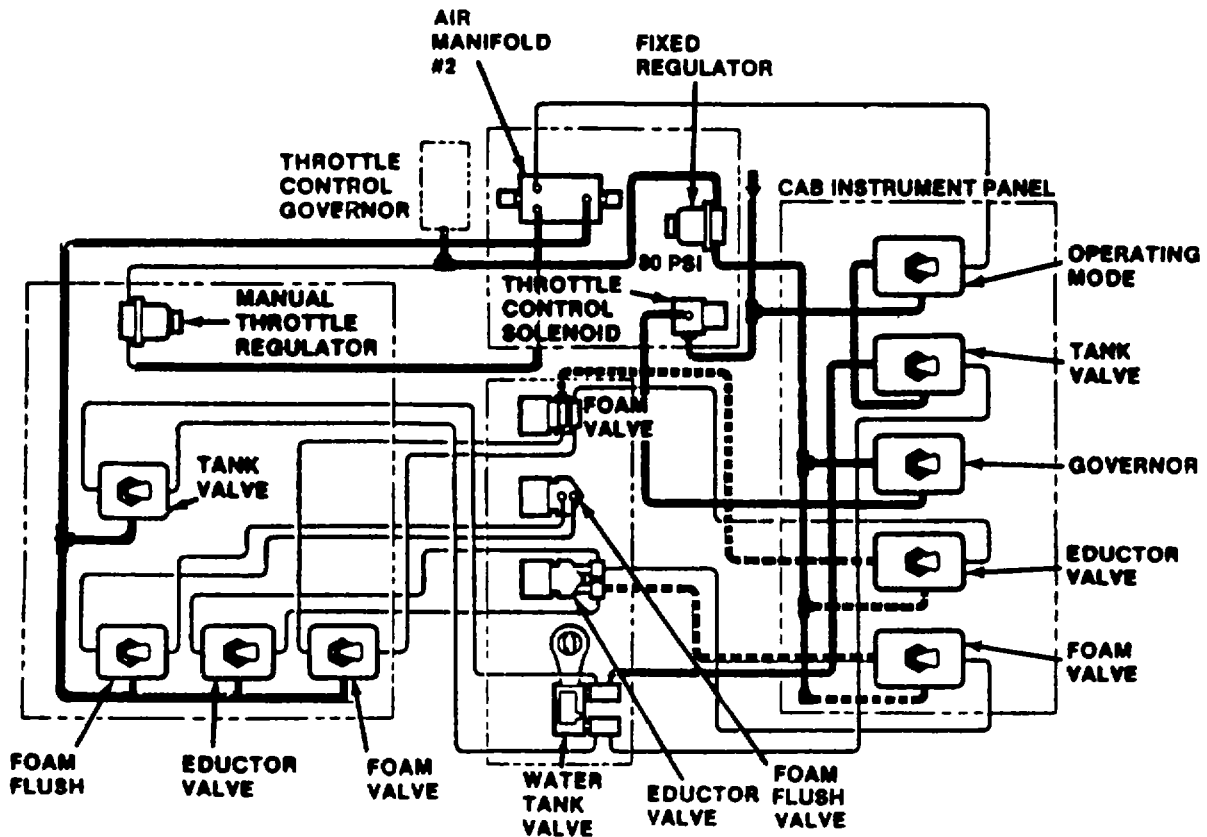

Figure 1-39. Water and Foam Control - CFR Mode.
(1) With the mode switch selected to CFR, manifold #2 is isolated and air flow is provided to the TANK VALVE switch, (see fig. 1-39). When the TANK VALVE switch is set on OPEN, air pressure is provided to open the tank valve.
(2) When the PUMP switch is set to ON (see para 1-19c.), air flow is also provided via the energized solenoid valve (L) to the GOVERNOR switch. Setting this switch to ON provides air flow to the throttle control governor. The air flow is regulated to 80 psig by the fixed regulator. Refer to paragraph 1-13 for details of throttle operation. Control air flow is also provided to the FOAM VALVE and WATER EDUCTOR switches.